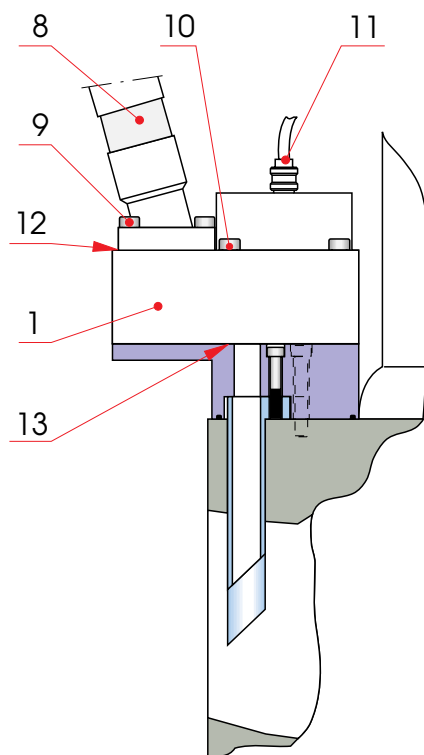

Fig 17-3
- 3 Disconnect the cable (11).**
- 4 Unscrew the fastening screws (10) of the gas admission valve and remove the gas admission valve.**
On every main gas valve, at the connection to the flexible pipe, an interchangeable gas filter (15) is located, see Fig 17-3.
- 2 Unscrew the flexible pipe fastening screws and remove the pipe (8).**
- 3 Remove the pipe (8),** replace the gas filter (15) and the O-rings (12) with new ones, see Fig 17-3.
2 Renew O-rings (12) and (13) on the gas admission valve, see Fig 17-3.